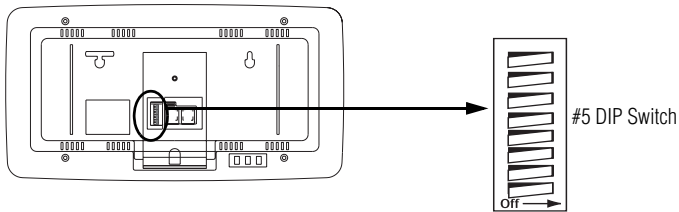

Figure 6: Setting the DIP Switches
3. Locate the #5 DIP switch (See Figure 6: Setting the DIP Switches).
3. Locate the #8 DIP switch (See Figure 6: Setting the DIP Switches).